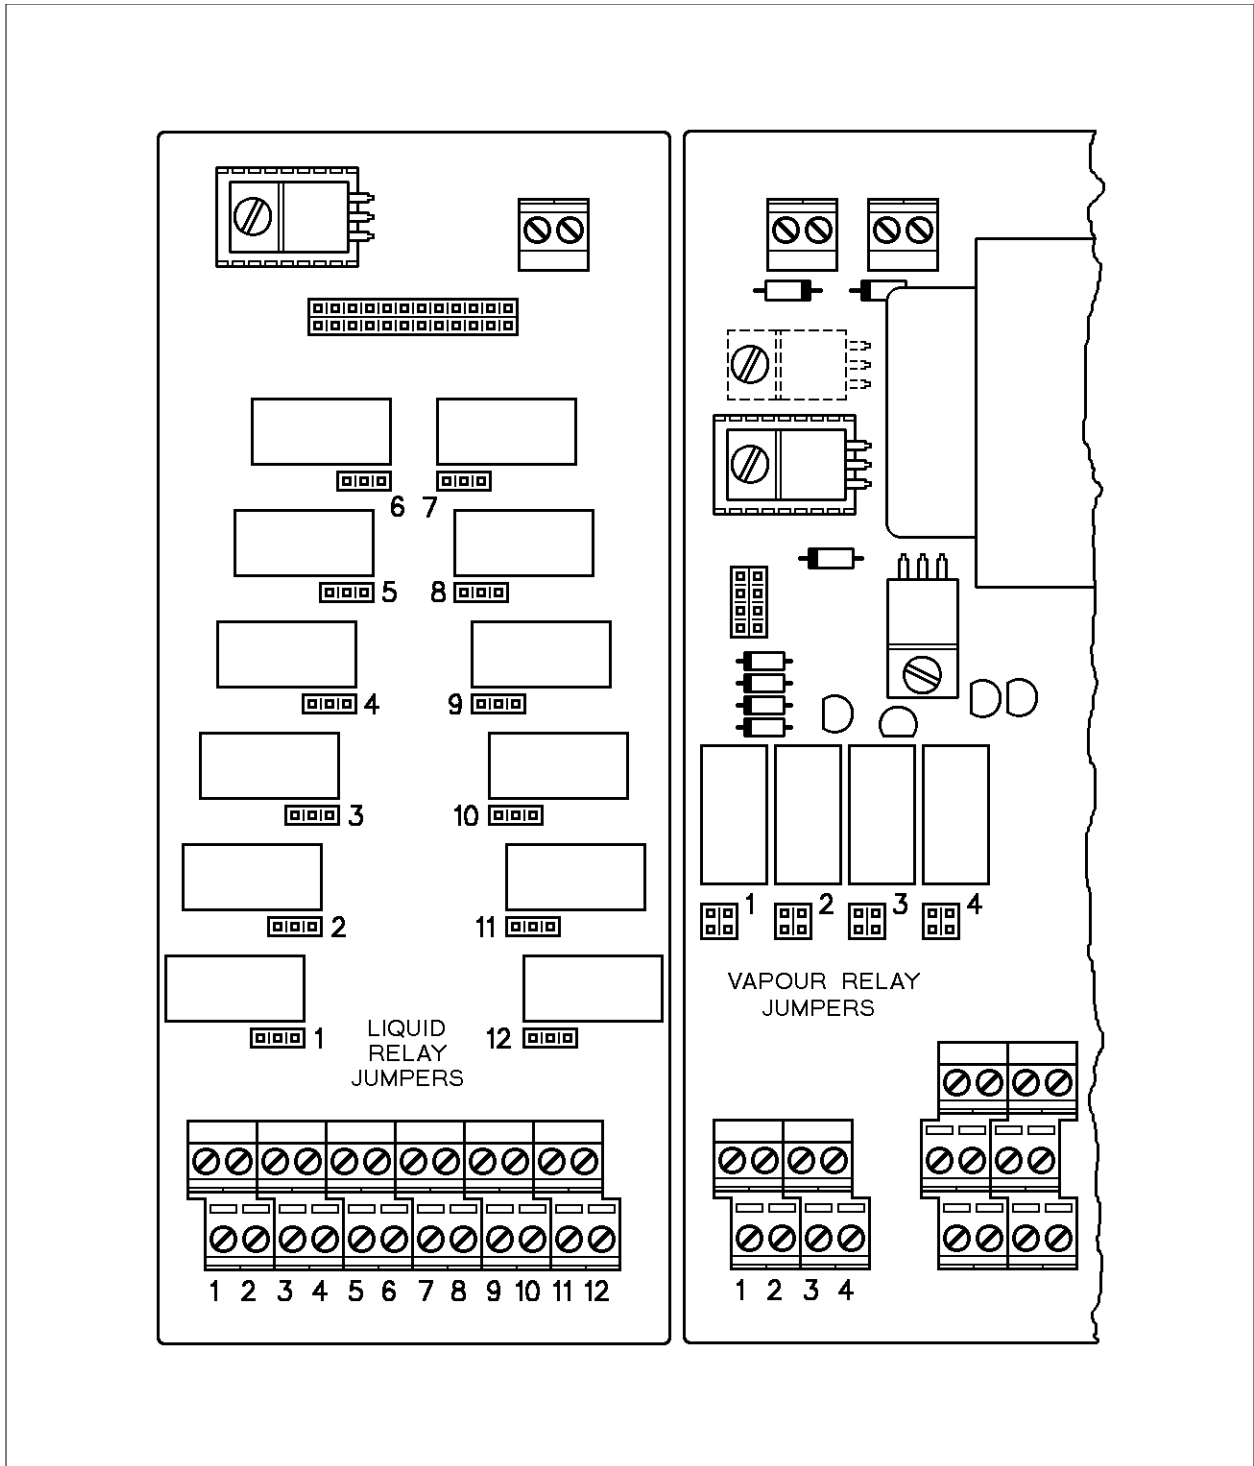

FIGURE 7: Configuring the relay contacts.
- RELAYS** There are sixteen SPDT relays (12 liquid & 4 vapour) which activate with liquid alarms and vapour alarms causing contact transfer. The jumpers (see FIGURE 7) are used to configure the relays for Normally OPEN or CLOSED contacts. The relay contacts are rated up to 1 Amp @ 125/250 VAC, 30VDC. External alarms or devices connect to the relay contact terminal blocks (see FIGURE 7).
Each relay can be independently configured to provide Normally Open or Normally Closed contacts. Note that each set of jumpers features long pins and two jumper clips, to equal the current capacity of the relays. The jumpers are located directly below each relay. (Refer to FIGURE 7 for jumper location and programming)
**NOTE: If the monitor was ordered with ENERGIZED relays, ALL of the relay contacts jumpers MUST be configured to function opposite to the ways described in the above paragraphs (see FIGURE 7).